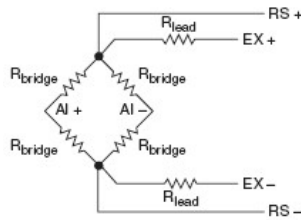

Figure 9b. Remote Sensor Error Compensation
**Remote Sensing** – If the strain gage circuit is located a distance away from the signal conditioner and excitation source, a possible source of error is voltage drop caused by resistance in the wires connecting the excitation voltage to the bridge. Therefore, some signal conditioners include a feature called remote sensing to compensate for this error. Remote sense wires are connected to the point where the excitation voltage wires connect to the bridge circuit, as seen in Figure 9b. The extra sense wires serve to regulate the excitation supply through negative feedback amplifiers to compensate for lead losses and deliver the needed voltage at the bridge.